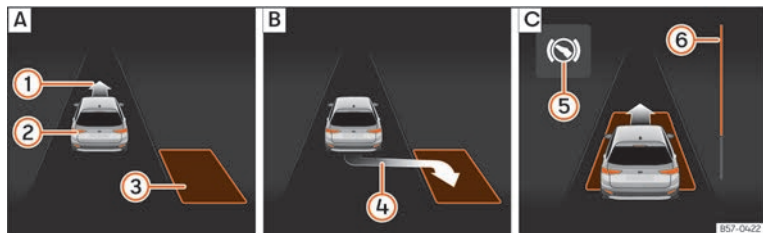
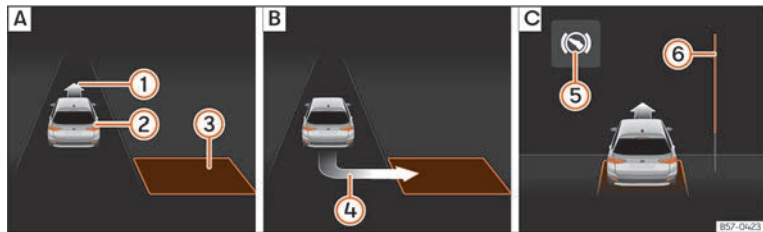

Fig. 128 On the instrument cluster display: parallel parking. **A:** Finding a parking space **B:** Parking position. **C:** Manoeuvring.
Fig. 129 On the instrument cluster display: angle parking. **A:** Finding a parking space **B:** Parking position. **C:** Manoeuvring.
- Look at the instrument cluster screen to see if the space has been detected as “appropriate” and if the correct position for parking has been reached » Fig. 128 **B** or » Fig. 129 **B**. The space is considered “appropriate” if the instrument cluster display shows the parking indication ④.
- Reverse until the continuous ParkPilot signal sounds; **OR:** reverse until the indication to move forward appears on the instrument panel display >>> **Fig. 128** [C] or >>> **Fig. 129** [C]; **OR:** reverse until the **Park Assist finished** message appears on the instrument cluster display. The progress bar ⑥ indicates the distance to cover.
- Press the brake pedal until the parking assist system completes the steering wheel turns; **OR:** until the symbol ⑤ goes out on the instrument panel screen.
- Move forward until the continuous ParkPilot signal sounds; **OR:** move forward until the reverse indication appears on the instrument panel display. The Park Assist system steers the vehicle forward and back until it centres it in the space >>> **Fig. 128** [C] or >>> **Fig. 129** [C].
The progress bar >>> **Fig. 128** ⑥ and >>> **Fig. 129** ⑥ on the instrument cluster display shows the relative distance to be covered as a